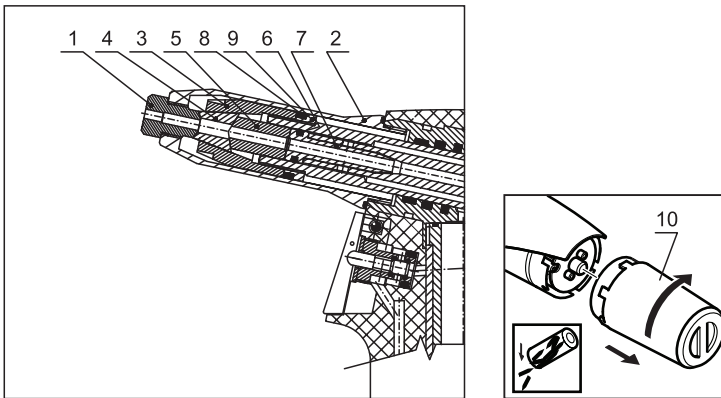

Fig. 2
Disconnect the tool from the source of compressed air, unscrew the adjustable front nozzle /fig.2 - pos.2/ by means of a spanner no. 23, set the spanner no.15 onto the clamping sleeve /fig.2 - pos.3/, set the spanner no. 17 on the backnut /fig.2 - pos.9/ and loosen. Unscrew the clamping sleeve, replace the jaws /fig.2 - pos.4/ and jaw pusher /fig.2 - pos.5/. Then screw the clamping sleeve back on and shift out the suction pipe /fig.2 – pos.7/ by means of short connection of the tool to compressed air. The suction pipe can be removed after disconnection of compressed air and unscrewing the clamping sleeve. All used threads are right-handed. Clean the dismantled parts thoroughly and check them visually, especially the following:
- 1) Jaws /fig.2 – pos.4/ - if worn or damaged, replace it, if dirty, clean it with a wire brush.
- 2) Nose-piece, jaw pusher /fig.2 – pos.1,5/ - for wear of functional surfaces of the taper.
- 3) Completed tube /fig.2 - pos.7/ - blow air through, if not clear (congested with shanks of BR), replace it.
- 4) „O” ring / fig.2 - pos.6/ - if damaged, replace it with a new one.
- 5) Adjustable front nozzle / fig.2 - pos.2/ - check for damage of the internal surface ($\varnothing 18$).
- 6) Scraper ring /fig.2 - pos.8/ - if damaged or worn, replace it with a new one.
- 7) Mandrel container / fig.2 - pos.10/ - if the mandrel container or its bottom are worn or damaged, replace them with new ones, otherwise there is danger of the torn-off shank popping out.
Mount the parts (see par. disassembly) in a reverse order. On the outer surface of the jaws /fig.2 – pos.4/ apply a drop of lubricating oil (we recommend hydraulic oil HYPSPIN AWHM 32 CASTROL), apply thin layer of plastic lubricant MOGUL LV 2-3 to the suction pipe and "O" ring /fig.2 – pos.7,6/. Basic set-up of the jaws is performed as in fig. no. 3.